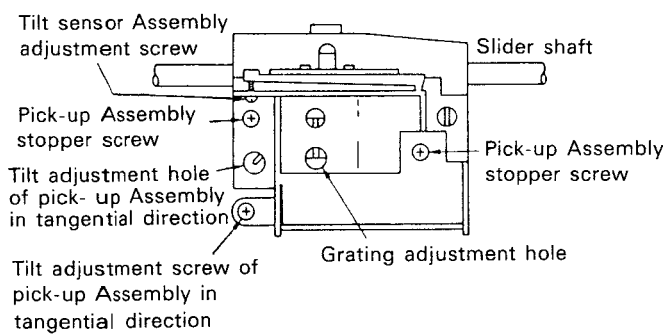

Fig. 10-1-2 Description of the parts of pick-up Assembly
- ② Remove the three stopper screws of the mechanism Assembly. Then, remove the mechanism Assembly from the main unit. Make sure the configuration surrounding the pick-up Assembly is as shown in Fig. 10-1-2.